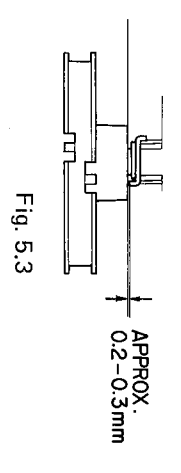

Fig. 5.4
(1) Referring to Fig. 5.4, set a dial thread from the front-end side of F1 (Front-end Pulley 430) to the protrusion of F1.